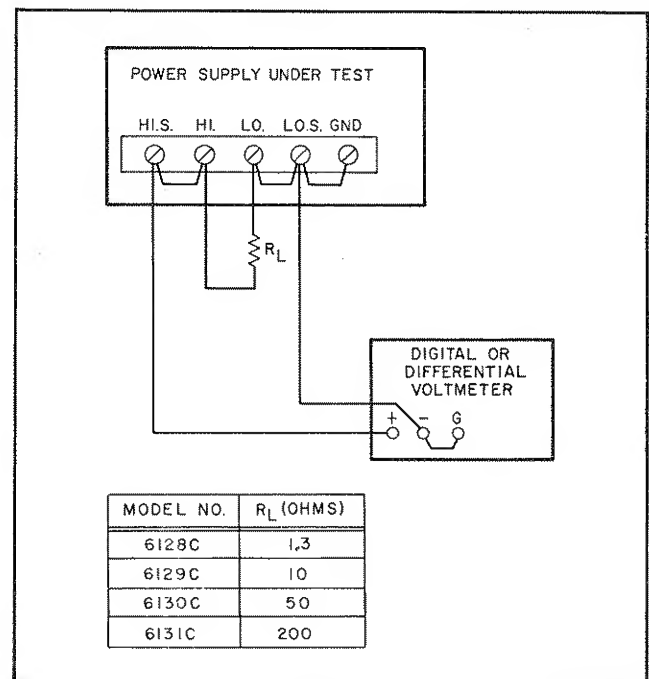

Figure 5-1. Constant Voltage Load Regulation Test Setup
- Connect test setup shown in Figure 5-1. Set the METER switch to the highest voltage and current ranges.
a. Connect test setup shown in Figure 5-1. Set the METER switch to the highest voltage and current ranges.
a. Connect test setup shown in Figure 5-1.